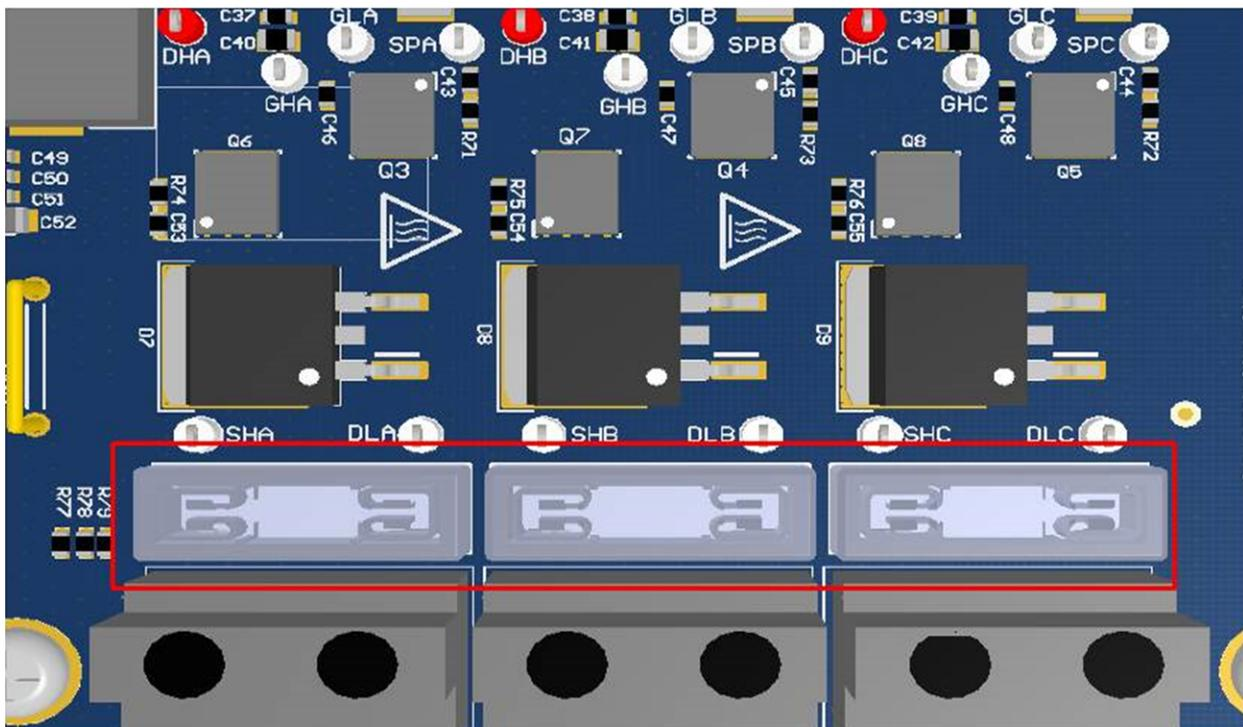

Figure 11. Remove Jumper Connectors
Step 2. Remove the connector between the SHx and DLx output connections, F5, F6, F7, or all three (see Figure 11).